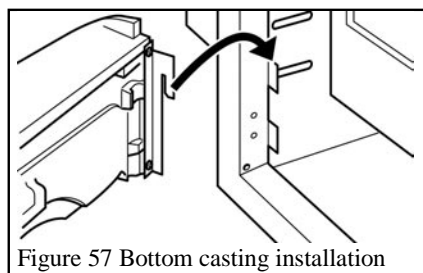

Figure 57 Bottom casting installation
- Attach the bottom-casting unit by hooking over the lower tabs at the firebox sides. See figure 57.